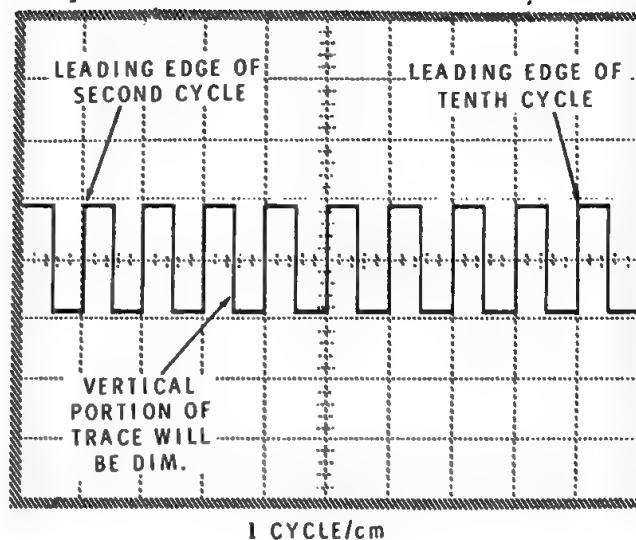

Figure 18
- Refer to Figure 17 in the "Illustration Booklet" and carefully adjust the X CAL control (R268, on the horizontal circuit board) and the HORIZ POS control for exactly 10 cycles in 10 centimeters (1 cycle per centimeter) as shown in Figure 18. Use the leading edge of the second and tenth cycle for this adjustment.
15. Refer to Figure 17 in the "Illustration Booklet," and carefully readjust the X CAL control (R268, on the horizontal circuit board) and the HORIZ POS control for exactly 10 cycles in 10 centimeters (1 cycle per centimeter) as shown in Figure 18. Use the leading edge of the second and tenth cycle for this adjustment.